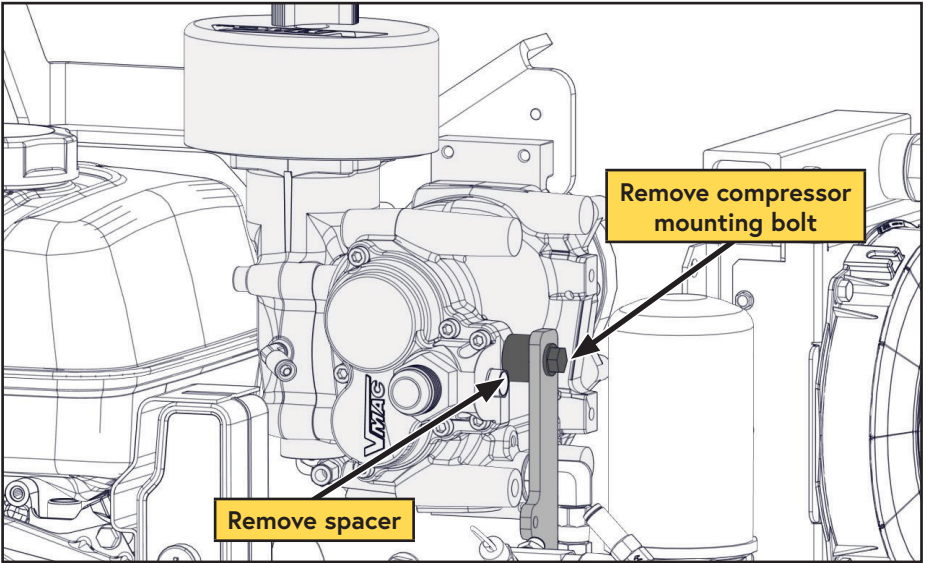

Figure 74 — Remove compressor
- Remove the bolt from the side of the compressor (Figure 74).